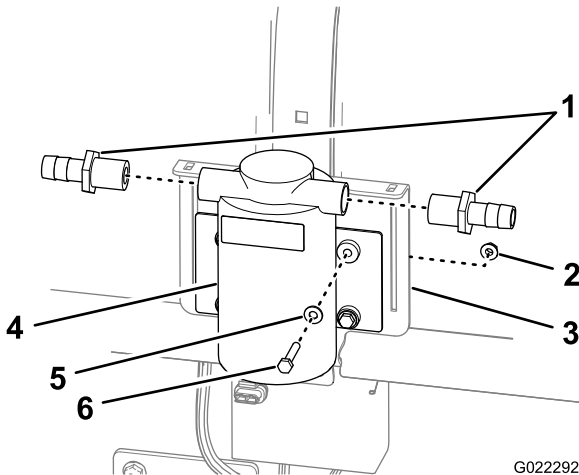

Figure 9
2. Secure the pump to the frame using the 4 bolts, small washers, and nuts (Figure 9).
3. Install the 2 straight barbed fittings into the inlet and outlet ports of the pump (Figure 9).